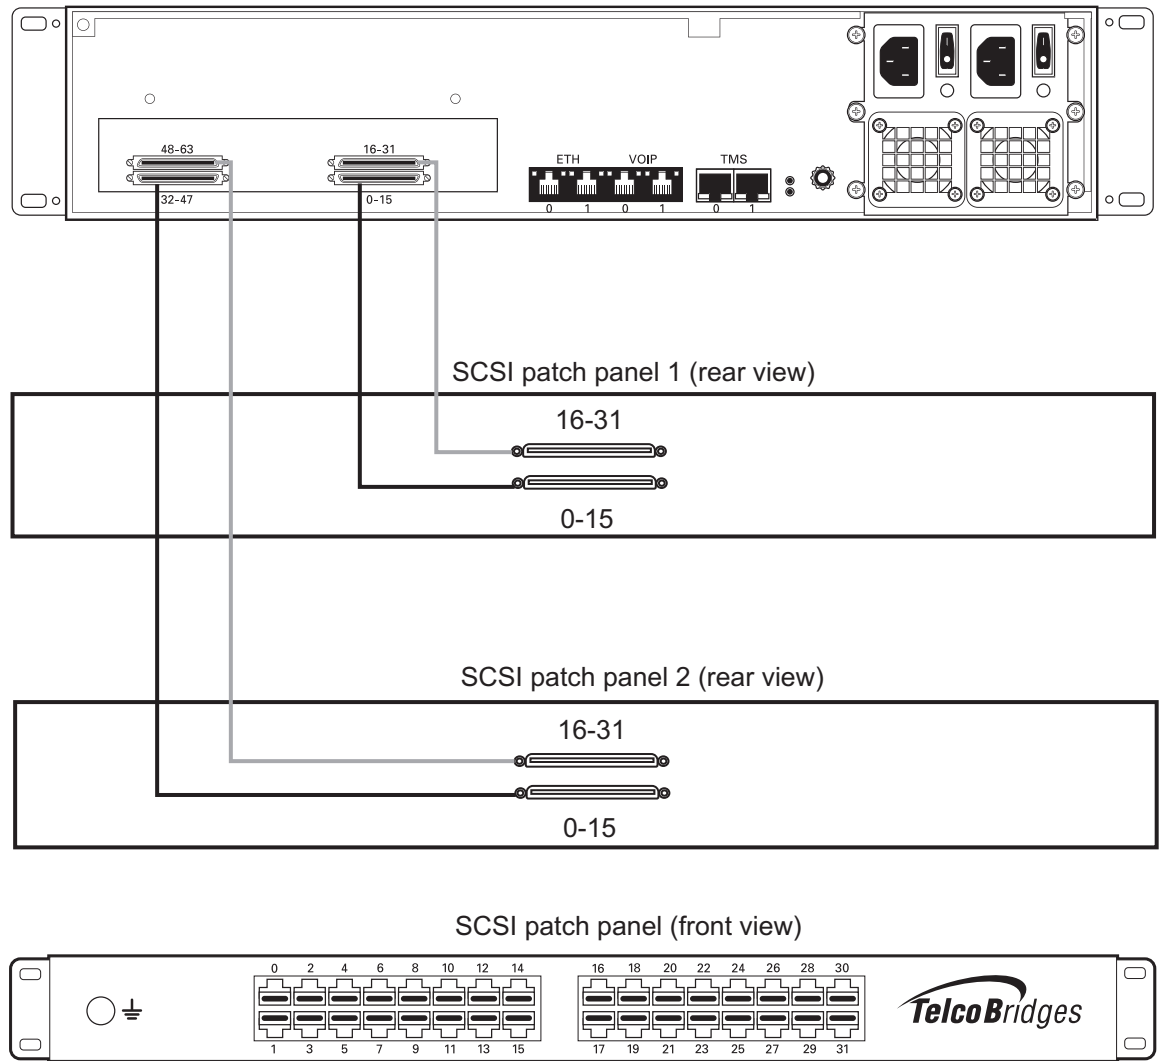

Figure 2.5 3200-TE with SCSI connectors
1. Start with SCSI ports 0-15 located at the bottom right as shown in figure 2.5 on page 22. Connect one SCSI cable between this port and SCSI patch panel number 1, ports 0-15. Connect SCSI ports 16-31 to patch panel number 1, ports 16-31.